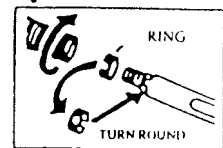

Fig. 2
2. Unscrew reservoir and pencil part and inverse the black ring (fig. 2).